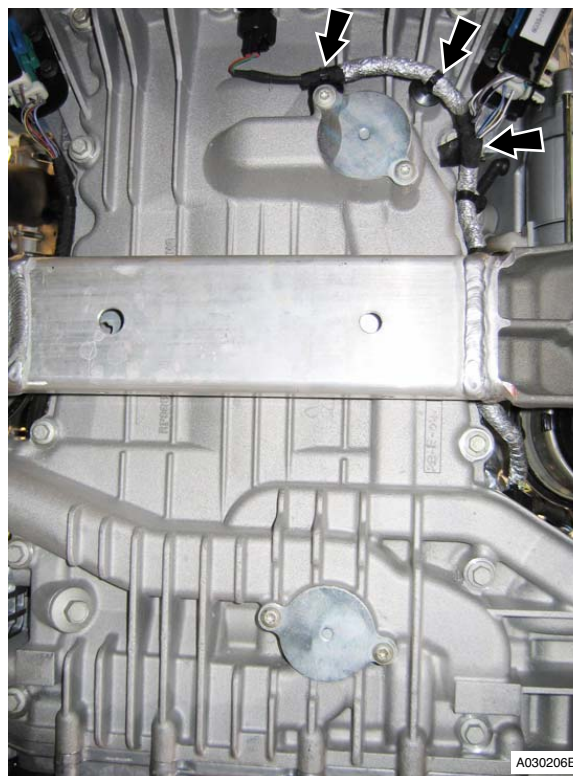

Figure 4
5. Release harness clips (x6) from sump (refer to Figure 4).